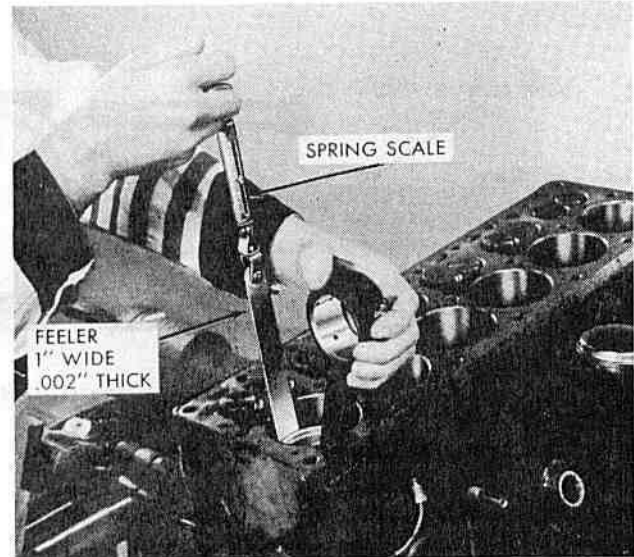

FIG. 144
**CHAMPION AND COMMANDER** A feeler gage of proper thickness should be inserted on the camshaft side of the cylinder. A piston should then be inserted in the cylinder in the inverted position, with the slotted side away from the camshaft, and with the bottom edge of the piston about 1" (25,4 mm.) below the top surface of the cylinder bore. Use a spring scale to measure the pull necessary to withdraw the feeler gage. The proper spring scale readings are as follows: with a feeler gage 1" (25,4 mm.) wide and .002" (0,0508 mm.) thick, a pull of 11 to 16 lb. (4,99 to 7,25 kgs.) on the Champion and 14 to 19 lb. (6,350 to 8,618 kgs.) on the Commander. (See Fig. 144.)